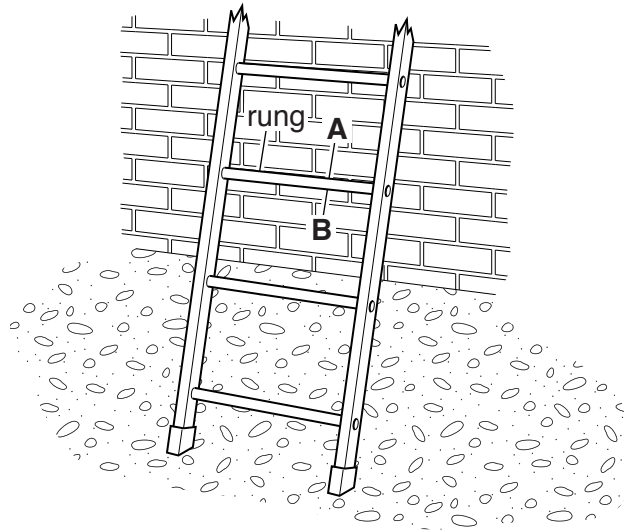

Fig. 5
- 9 Fig. 5 shows part of a ladder made from hollow aluminium sections.
- (ii) Name the forces acting at the positions **A** and **B** shown in Fig. 5 when a person stands on the rung of the ladder.